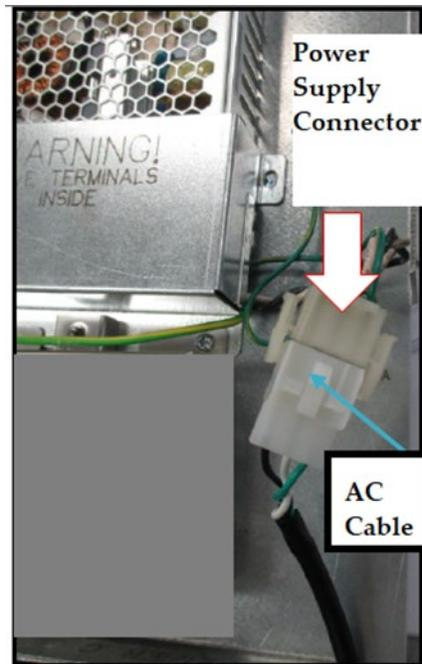

Figure 148
- 8) Disconnect the AC power cable that is attached to the power supply connector without the Invenco Link attached. See Figure 148 below.